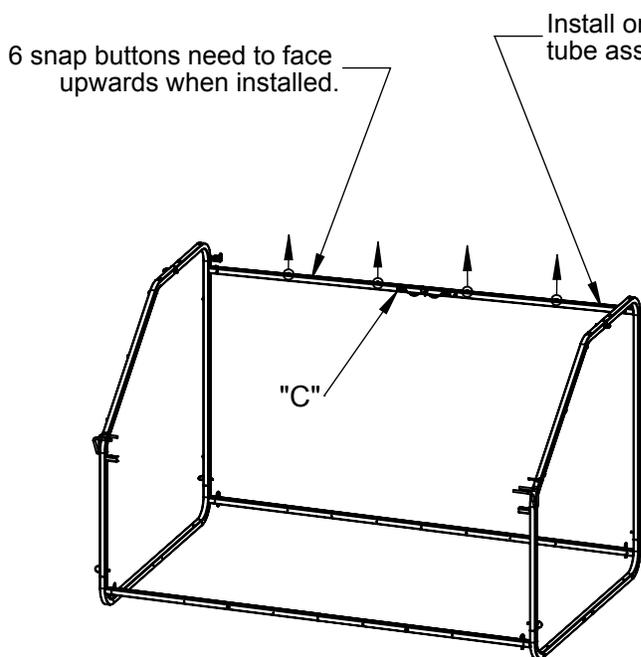
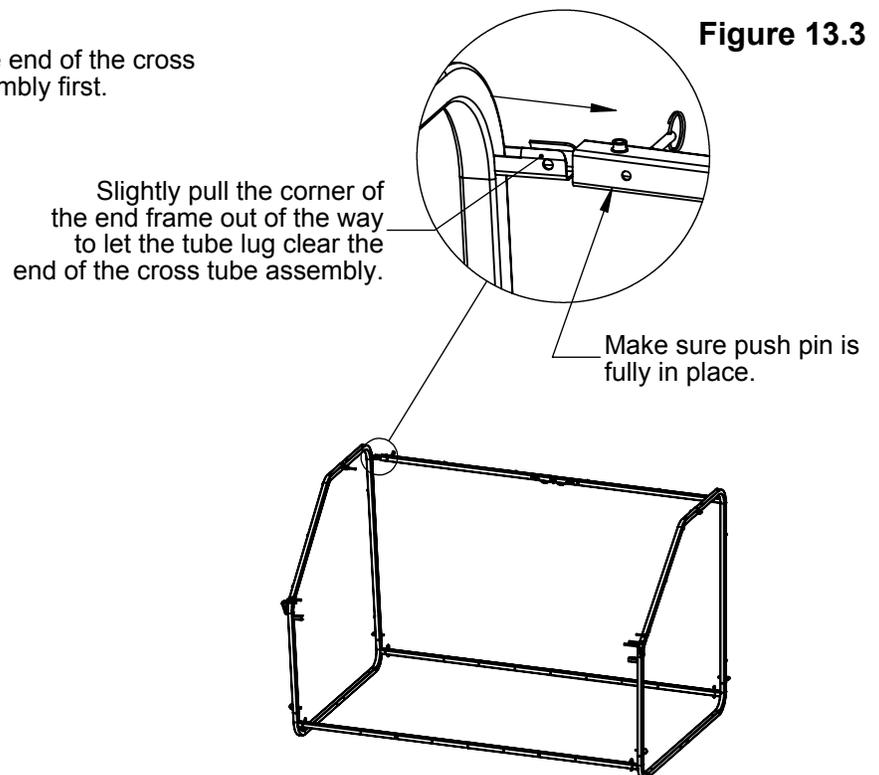

**Figure 12.1**
**Figure 12.2**
**STEP 4:** Take parts "G" & "I" and connect them together at the top, securing together with the connected push pin. Once connected at the top, place them onto the two stems sticking up on the bottom end frame tube, see figure 12.1. Again making sure that the lugs are facing inward toward the blind. Once the tubes are slid together insert the push pin as shown in figure 12.3. Once the left side is done take parts "F" & "H" and repeat to finish the right side, figure 12.2.